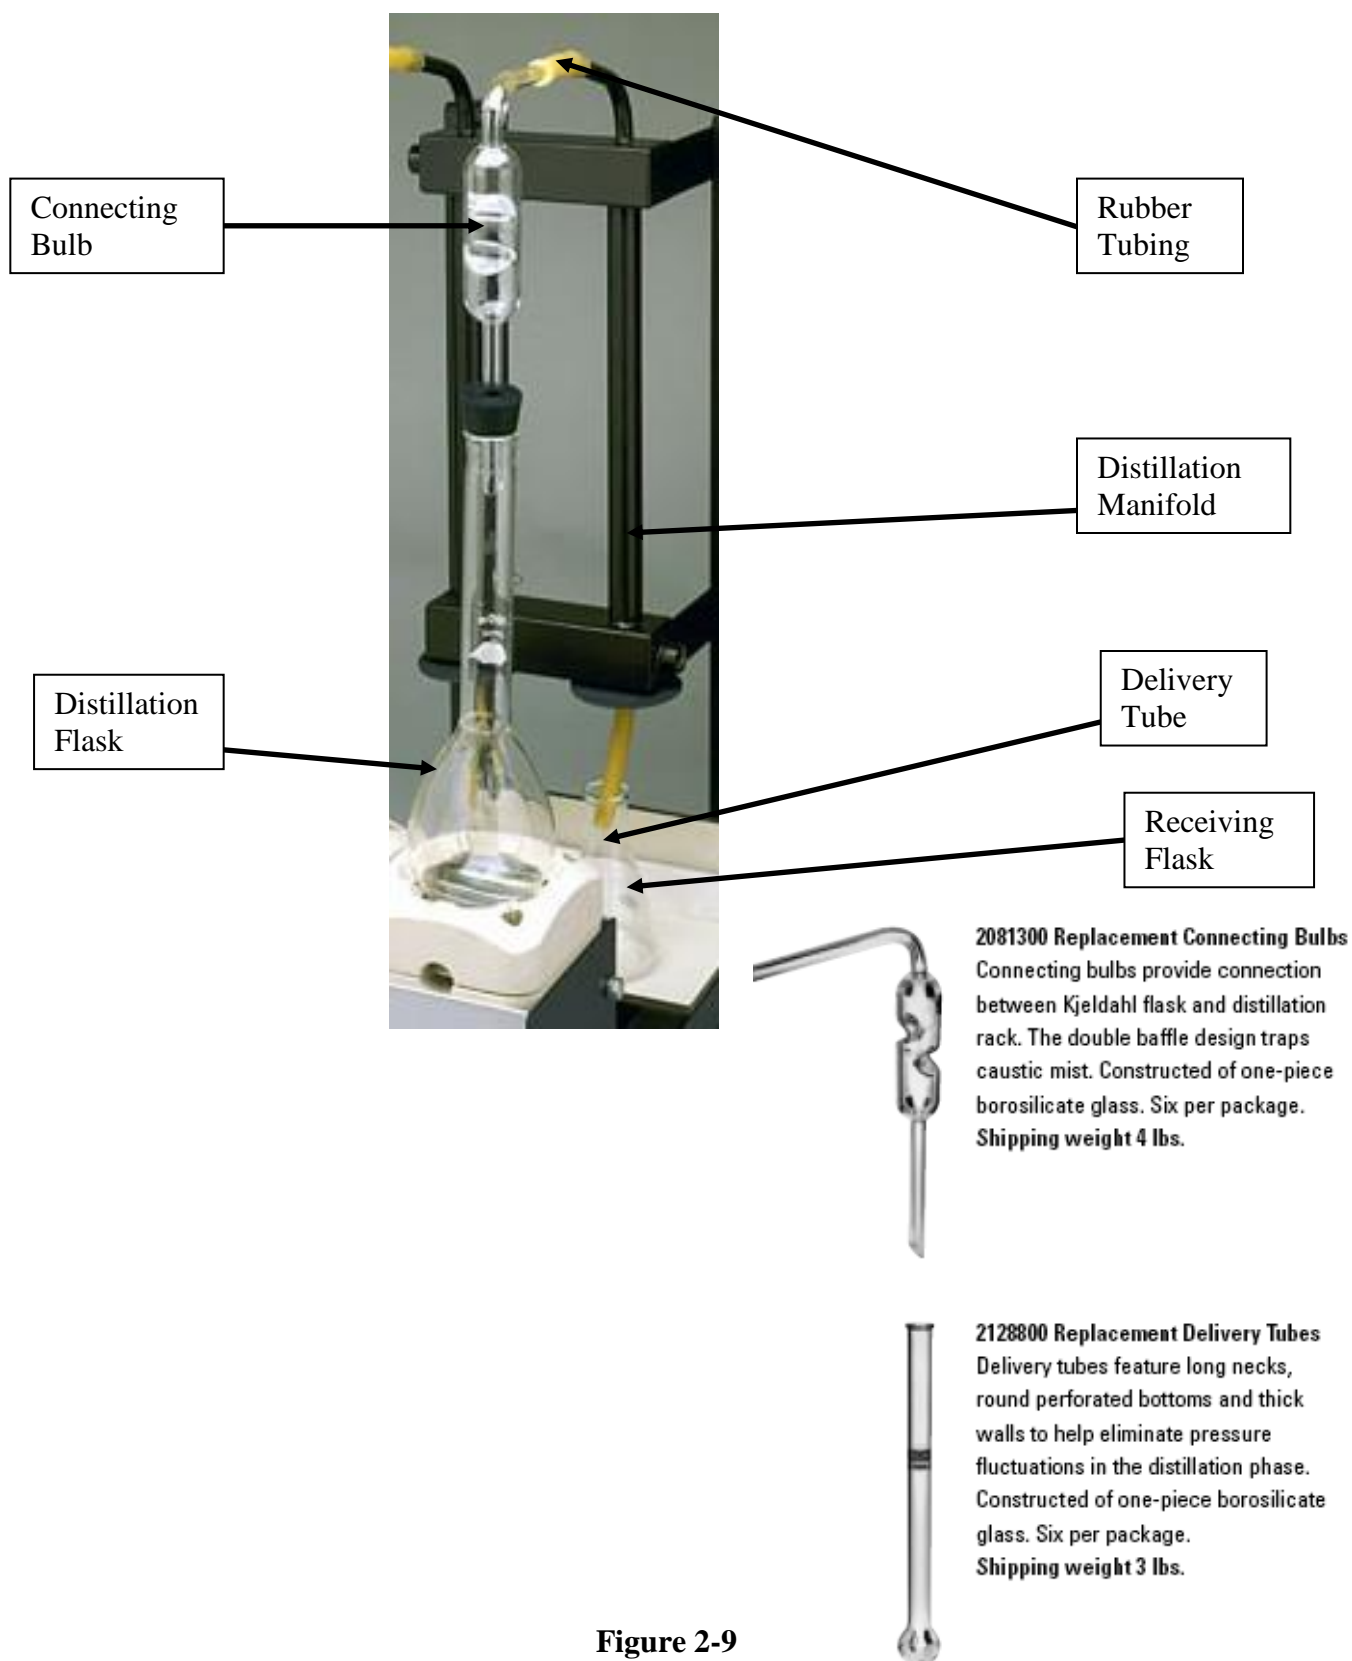

Figure 2-9
**Connecting Bulbs and Delivery Tubes are included with Macro Kjeldahl Systems. For installation of the Connecting Bulbs and Delivery Tubes see section on Glassware Installation and Figure 2-9.**